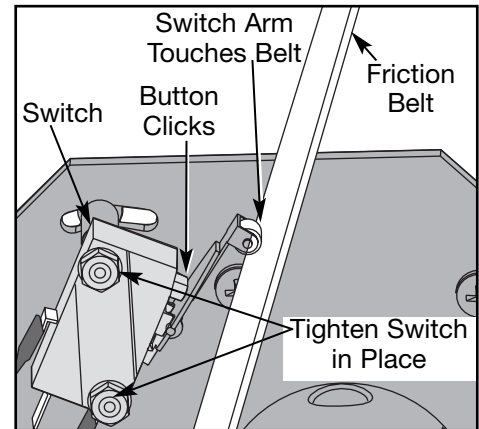

Figure 8
- B. When the belt is taut rotate the switch toward the belt until the switch closes (you will hear it click). See Figure 8. **NOTE:** Hold the switch in place until the next step.